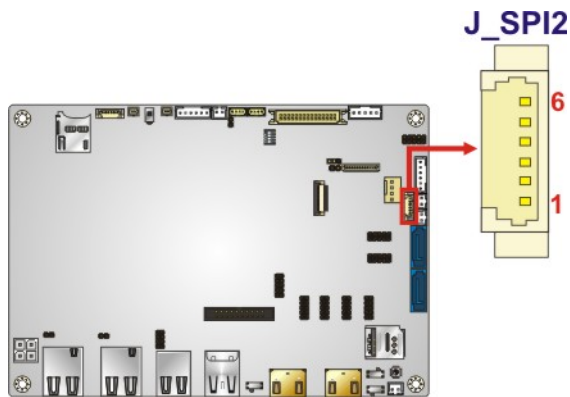

Figure 3-32: EC SPI Flash Connector Location
3.2.31 SPI Flash Connector (EC)
- CN Location:** See **Figure 3-32**